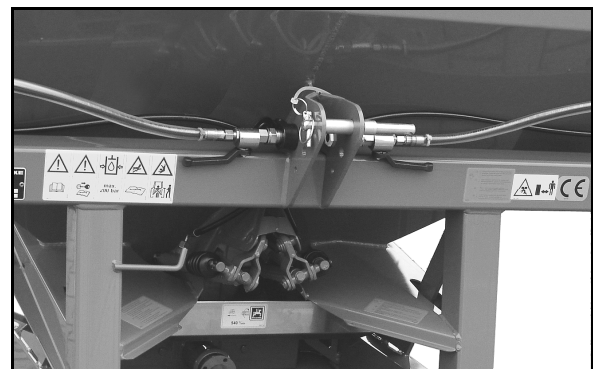

Fig. 26
4. Place the hydraulic hose lines in the hose cabinet (Fig. 26).